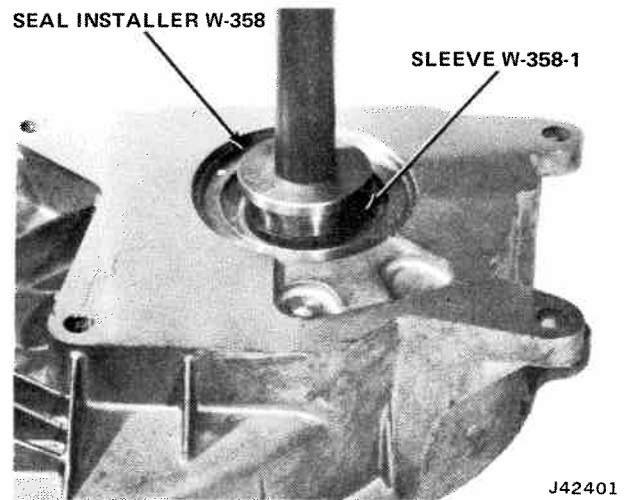

Fig. 8-48 Installing Drive Sprocket Front and Rear Oil Seals
(1) Drive sprocket oil seals may be replaced without disassembling transfer case.
(2) Use a standard J-type puller or a smooth-ended pry bar to remove seals. Do not damage case bore.
(3) Install rear seal (lip to rear) by using Seal Installer W-358 and Sleeve W-358-1 as driver. Install seal until driver shoulder touches case front surface.
(4) Remove Sleeve W-358-1. Install front seal (lip forward) by using Seal Installer W-358 less Sleeve W-358-1. Install seal until driver shoulder touches case front surface (fig. 8-48).